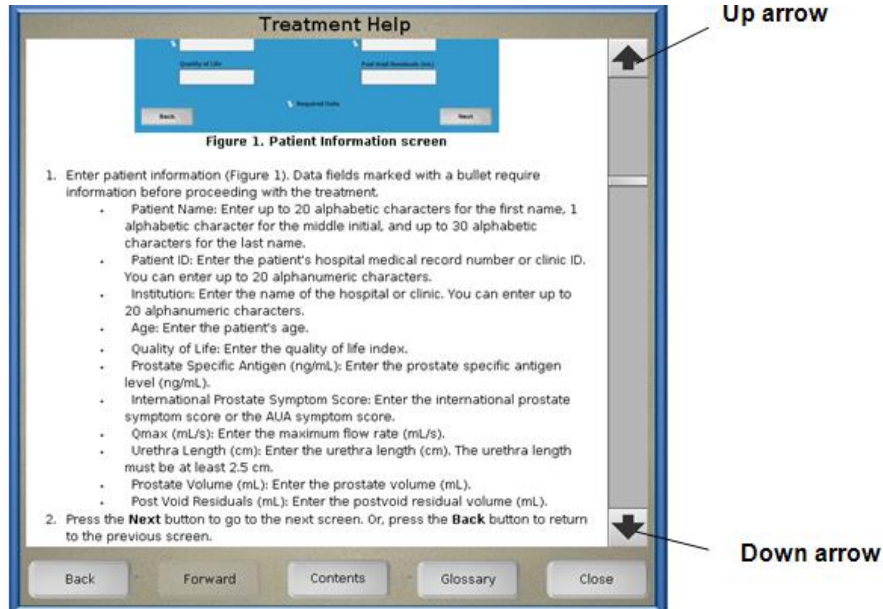

Figure 3-6. Help Window
1. Press the **Help** button. The Help window (Figure 3-6) appears containing the appropriate help information based on your location in the CoolWave Control Unit System software.